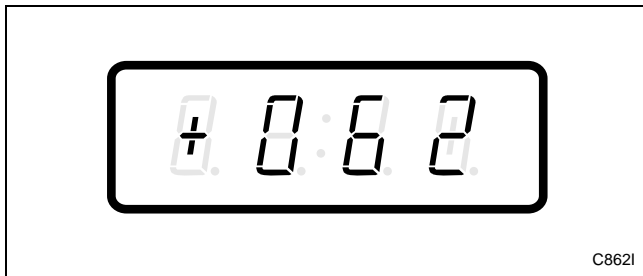

Figure 157
3. Press the DELICATES (+) or the COLD (-) keypad to scroll through the programmable options until “+062” appears in the VFD. Refer to *Figure 157*.